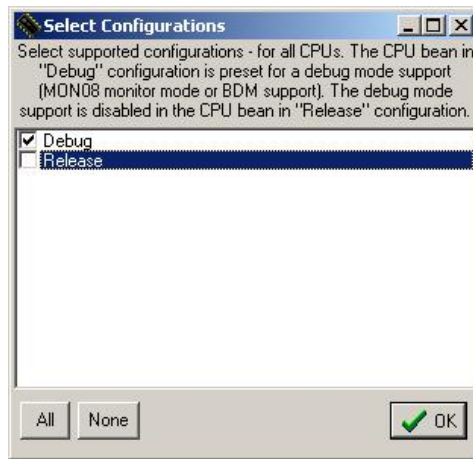

Figure 7. Select CPUs Dialog
14. In the next window you need to choose if you are creating this project for debug, release or both. For this example select only the debug option and click the Ok button. See Figure 7.